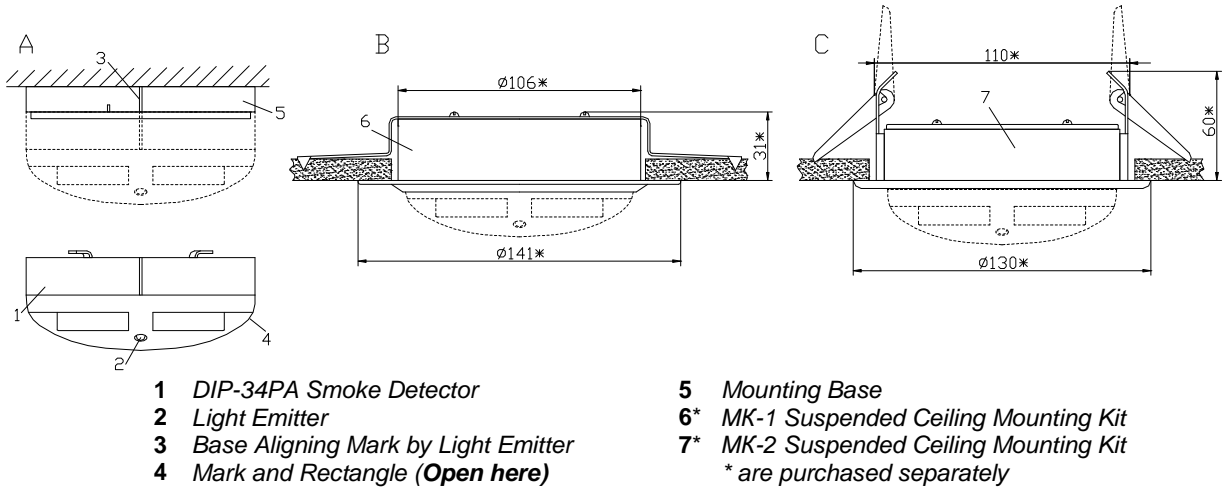
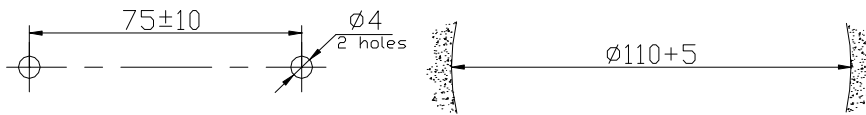

Figure 1 Three Ways to Mount the Detector
Figure 2 Drilling Pattern
Figure 1 shows three ways of attaching the detector.
To attach the detector to a solid surface (variant **A**) use the mounting base provided (see also the drilling pattern in Figure 2, at the left). For doing this match the detector mark with the short mark line on the mounting base, and then turn the detector clockwise until the detector mark will be aligned with the mark 3 as shown in Figure 1 (A).
To build the detector into a suspended ceiling use separately purchased mounting kits MK-1 (variant **B**) or MK-2 (variant **C**). The size of mounting hole is shown in Figure 2, at the right.